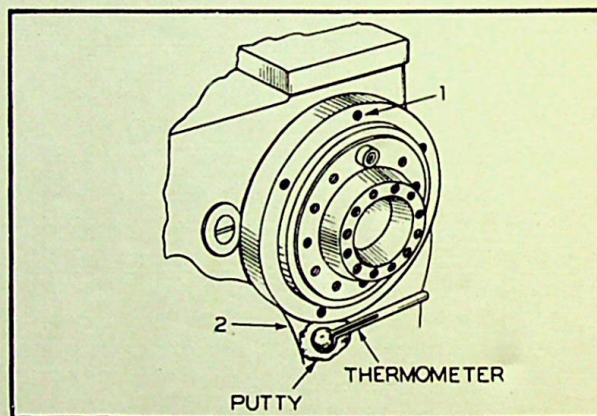

FIG. 55 Heat Test for Spindle Bearing Adjustment
2. Insert thermometer into threaded hole (1) Fig. 55, or pack it against the head with putty, as shown at (2).